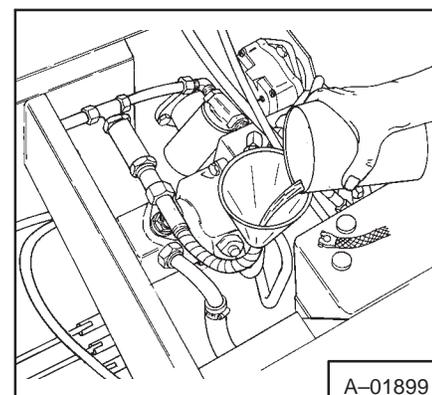

Fig. 2-10 Charging Hydraulic Pump
1. Disconnect the high pressure tube from the side of the vane pump. Disconnect the suction tube from the top of the vane pump (Fig. 2-10).